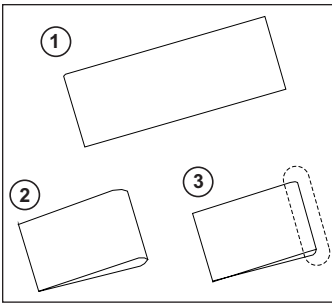

Figure 5. Folding Release Sheet
1. Fold a new release sheet in half, creasing the fold only with your fingers and place it over the platen (Figure 5). Allow the conveyor to draw it into place and verify that it is positioned properly.